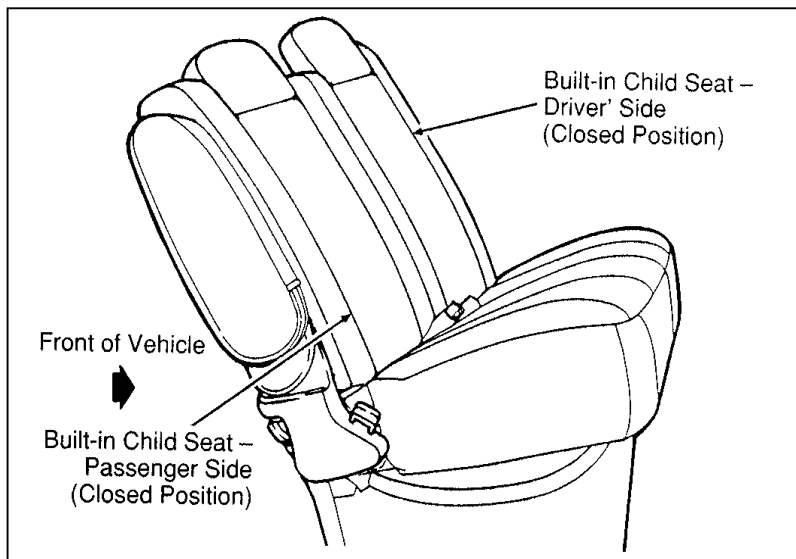

Figure 7: Built-in child seat fully closed
3. Ensure child seat is fully engaged into seatback. Refer to Figure 7.